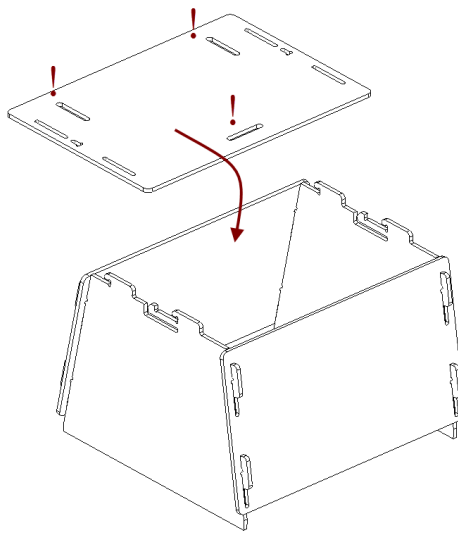

Figure 11.16.: Mounting the cover.
3. Paying attention to orientation of the slots, install the cover using the upper hooks of the side walls (see Figure 11.16.).